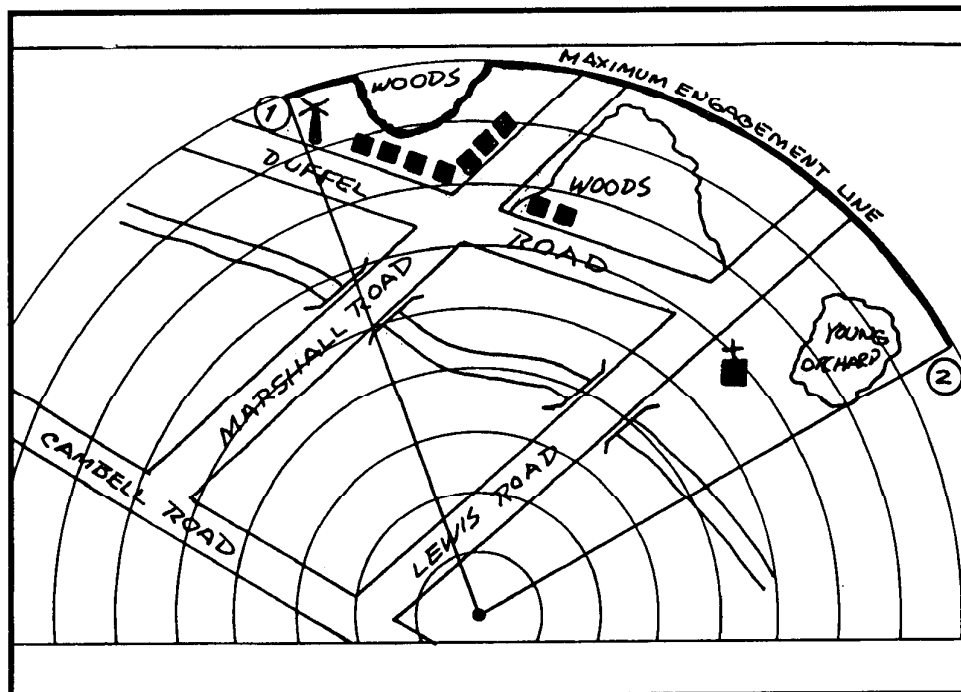

Figure E-4. Placement of maximum engagement line.
c. If there are no limitations, the maximum engagement line is curved and joins the left and right sector of fire boundaries at the maximum engagement range (Figure E-4, page E-4). If there are limitations, the maximum engagement line is drawn in front of the limiting terrain feature.